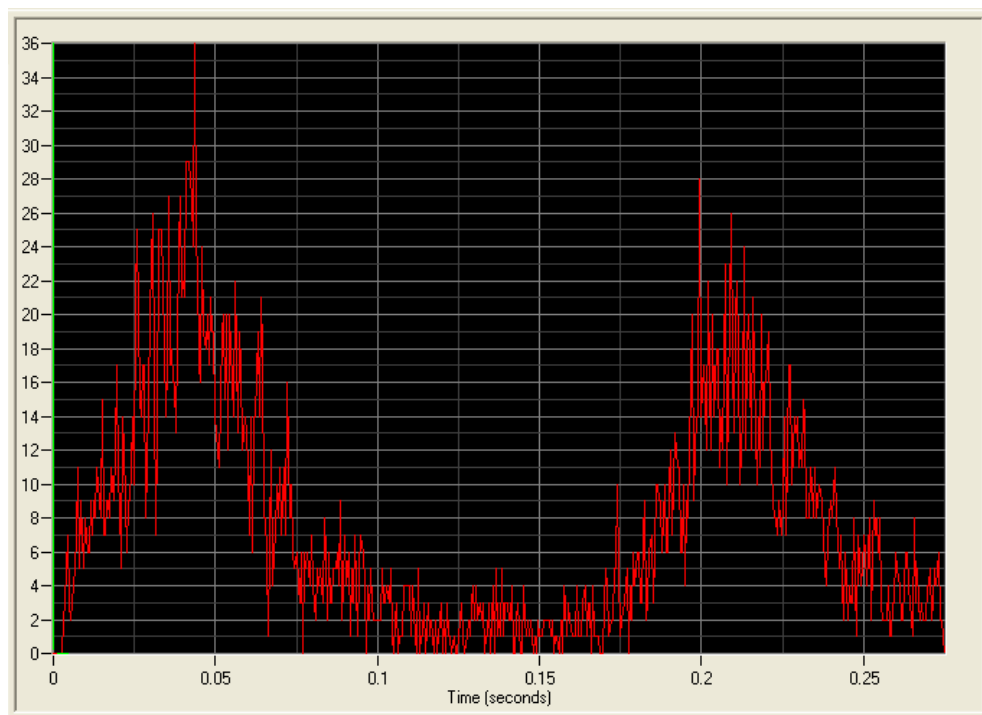

Figure 9:
23. Click OK. The graph pane will now display a plot of the number of particles detected in each frame as shown below in Figure 9.